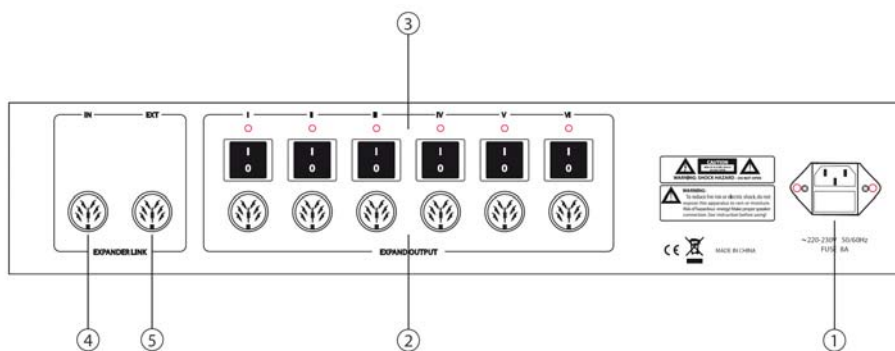

fig.8
Connect this output to the next expansion unit input using the provided cable (fig. 8, ref. 4). There is no limit to the number of expansion units that can be connected, yet the total number of manageable microphone stations must not exceed 254.